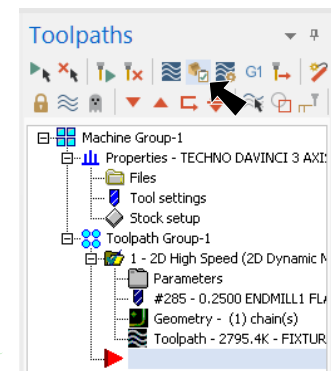
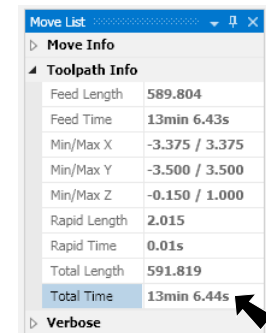

Fig. 55
Fig. 56
- Step 1. Click **Verify**  in the Toolpaths Manager, **Fig. 55**.
- Step 2. Click **Play**  (R) in VCR bar along bottom of window.
- Step 3. Note **Total Time** to run program under Toolpath Info in the Move List panel (**roughly 13 minutes**), **Fig. 56**.